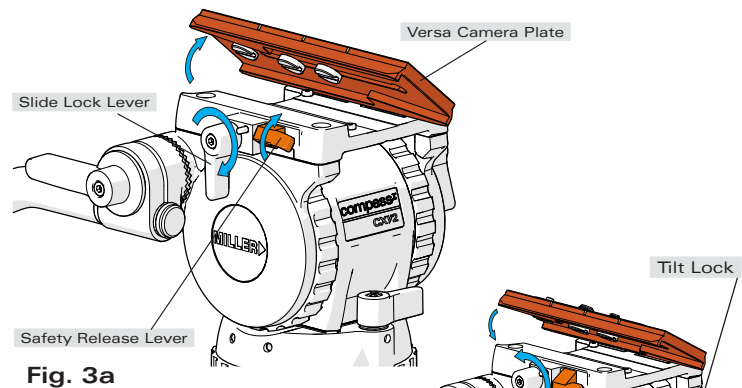

Fig. 3a
- 2.1 Remove the VERSA CAMERA PLATE by lifting the SAFETY RELEASE LEVER on the PLATFORM (SLIDE LOCK LEVER must be unwound (clockwise)) (Fig. 3a).